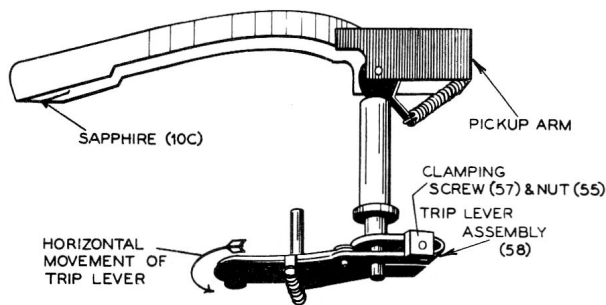

Figure 38.
1. Assemble the pickup arm and trip lever assemblies as shown in Figure 38. Leave the clamping screw (57) loose enough to permit horizontal movement of the trip lever on the shaft. (Allow approximately .010 inch vertical end play.)